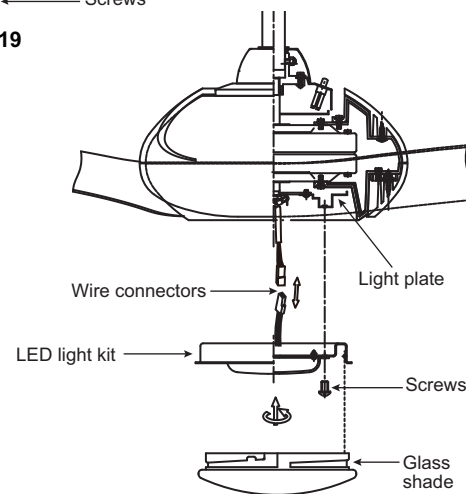

Fig. 20
Step 1. Loosen the three mounting screws on the inside of the LED light kit. (Fig. 20)
Step 2. While holding the LED light kit under the fan motor, make the wire connections: (Fig. 20)
Step 3. Tuck the connections neatly into the light plate. Place the key holes on the LED light kit over the 2 screws previously loosened from the light plate, turn the LED light kit until it locks in place at the narrow section of the key holes. Secure by tightening all three screws. (Fig.20)
Step 4. Raise the glass shade against the light kit and turn clockwise until snug, DO NOT OVERTIGHTEN. (Fig. 20)